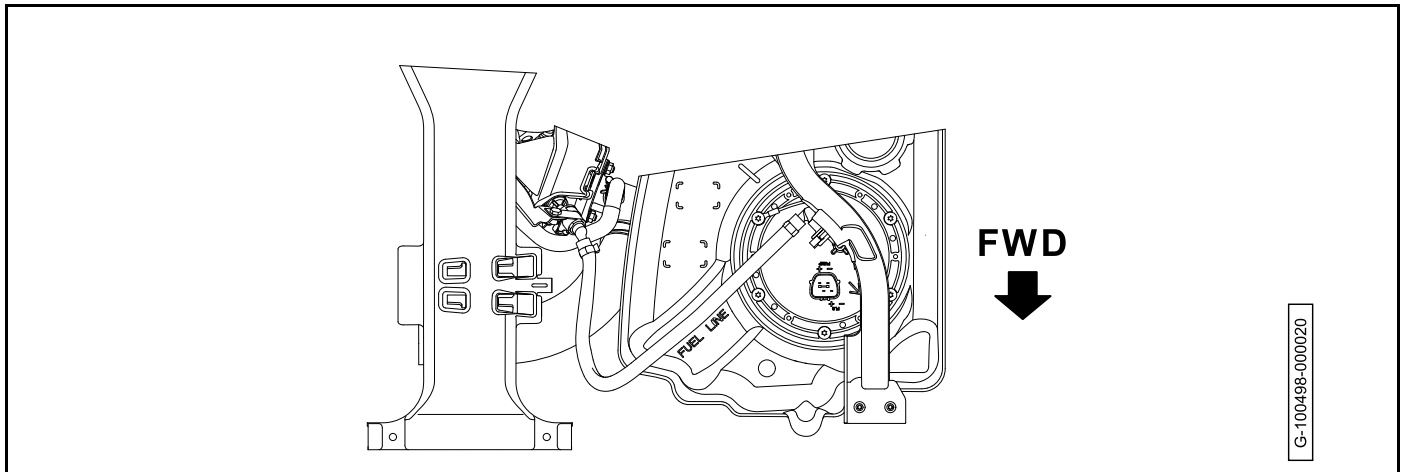

Figure 22-18
10. Make sure that the fuel line is routed correctly (**Figure 22-18**).